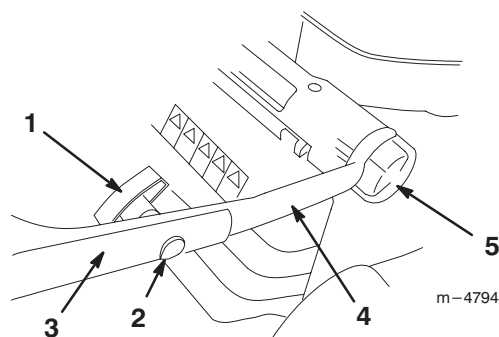

Figure 2
1. Loosen the handle height adjustment knobs and rotate the lower handle toward the rear of the lawn mower until it seats into one of the handle height settings as shown in Figure 2 on page 8. To set the handle height, refer to *Adjusting the Handle Height* on page 8.
3. Install the upper handle section onto the lower handle section with the oval head bolts and the handle knobs as shown in Figure 2. **Tighten the handle knobs securely.**
You can set the handle to three height settings: high, medium, and low (Fig. 2). Select the handle height setting most comfortable for you.